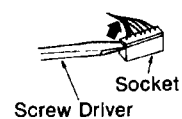

Fig. 11
*1. Remove socket in the direction of arrow as shown in fig. 11.